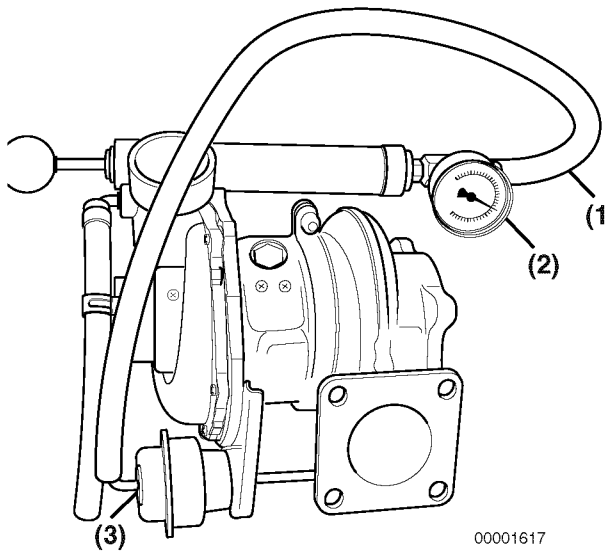

Figure 10-6
1. Connect a hand-operated air pump to the waste gate actuator pipe (**Figure 10-6, (1)**). The pump should be equipped with a 30 psi (0.21 MPa; 2.21 kgf/cm²) pressure gauge (**Figure 10-6, (2)**), and a pressure release valve to release any pressure pumped into the system. (Similar pumps are used to check for leaks in marine gear cases.)
2. Apply 17 psi (0.12 MPa; 1.2 kgf/cm²) to the waste gate actuator (**Figure 10-6, (3)**) circuit. Observe if the waste gate valve is open fully. If the waste valve does not open fully, replace the turbocharger or have it repaired by a qualified repair facility.